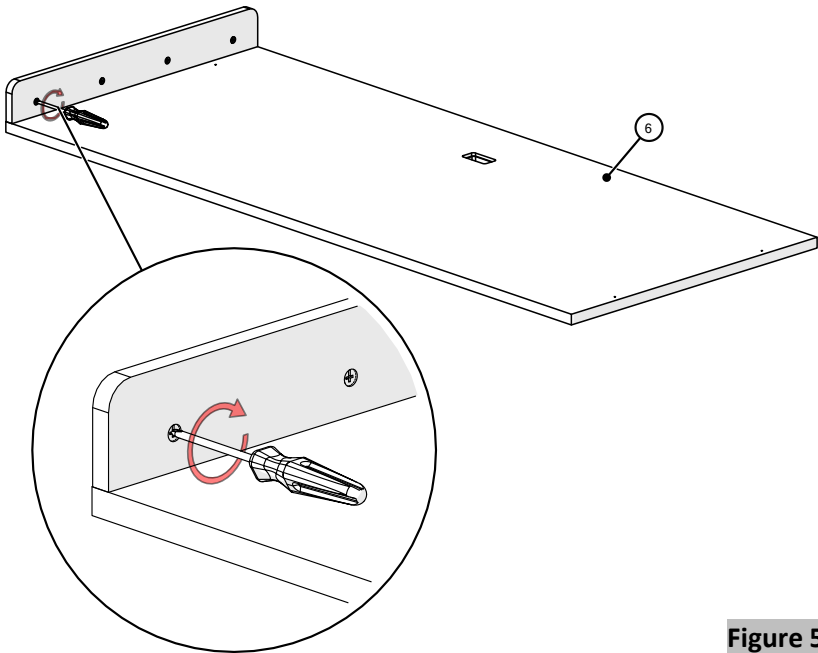

Figure 5
- 6. Turn the CamFix to smoothly lock the gable and surface together, (Figure 5).